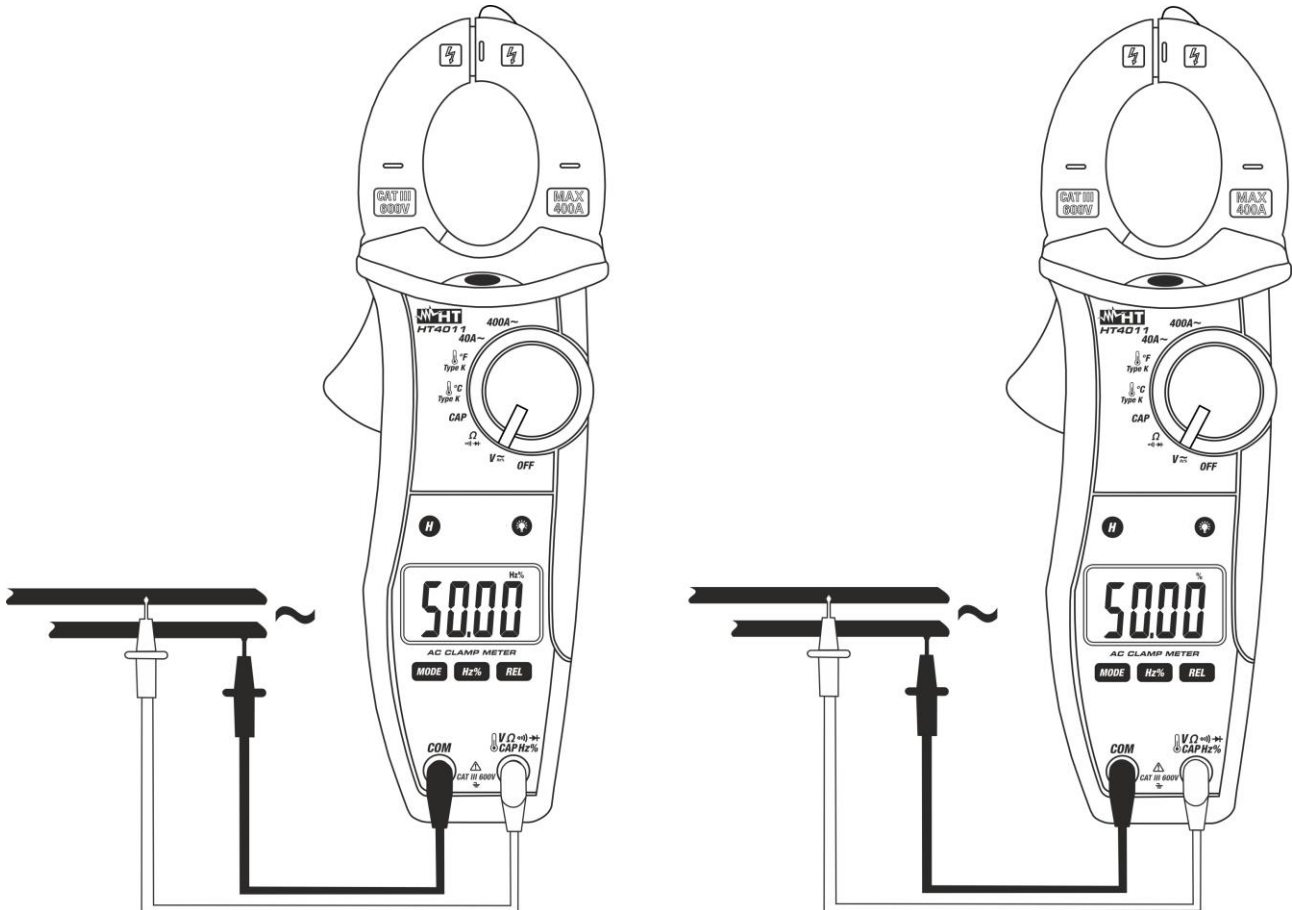

Fig. 5: Use of the clamp for frequency measurement and duty cycle
4. Position the test leads in the desired points of the circuit to be measured. The value of frequency (Hz) (see Fig. 5 – left part) or of duty cycle (%) (see Fig. 5 – right part) is shown on the display.